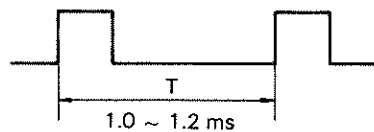

Fig. 4-26. PTS Timing
4.4.3 CARRIAGE MOTOR AND PTS SENSOR BOARD ADJUSTMENT (Figs. 4-26 and 4-27)
- Step 1: Connect the printer to a synchroscope and activate the printer self-test to check the PTS signal. The timing period (T) should be almost the same in both directions. (See Fig. 4-26)